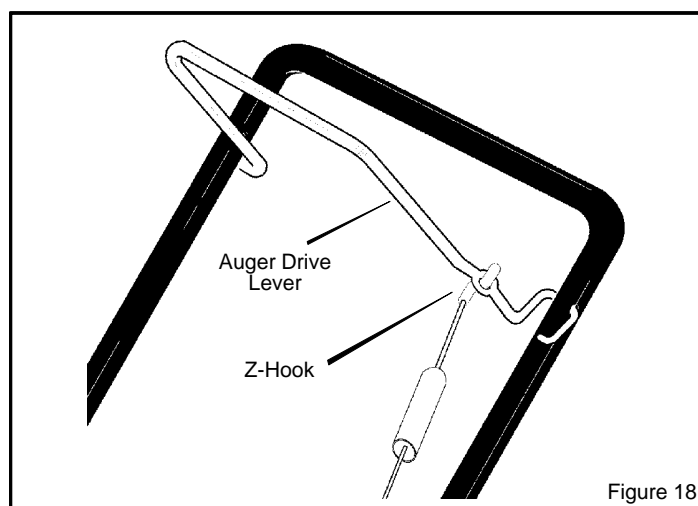

Figure 18
1. Remove the **"Z" hook** from the **auger drive lever** (Figure 18).